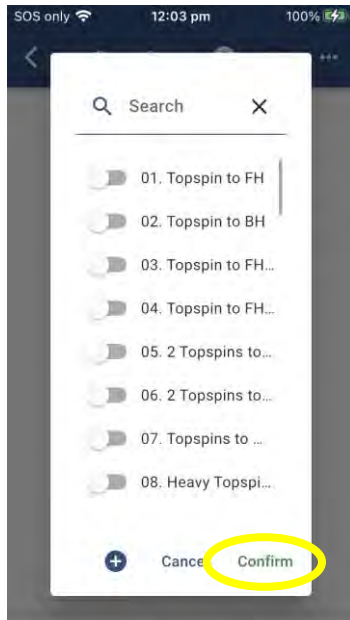

Figure 3-71
3. To add a Drill to the Group, push the "+" Add Drill button on the top of the screen. You will now see a scrollable list of all available Drills. (Figure 3-71)
6. To remove any Drills from the group, select the Drill and press the Drill remove button. (Figure 3-71)